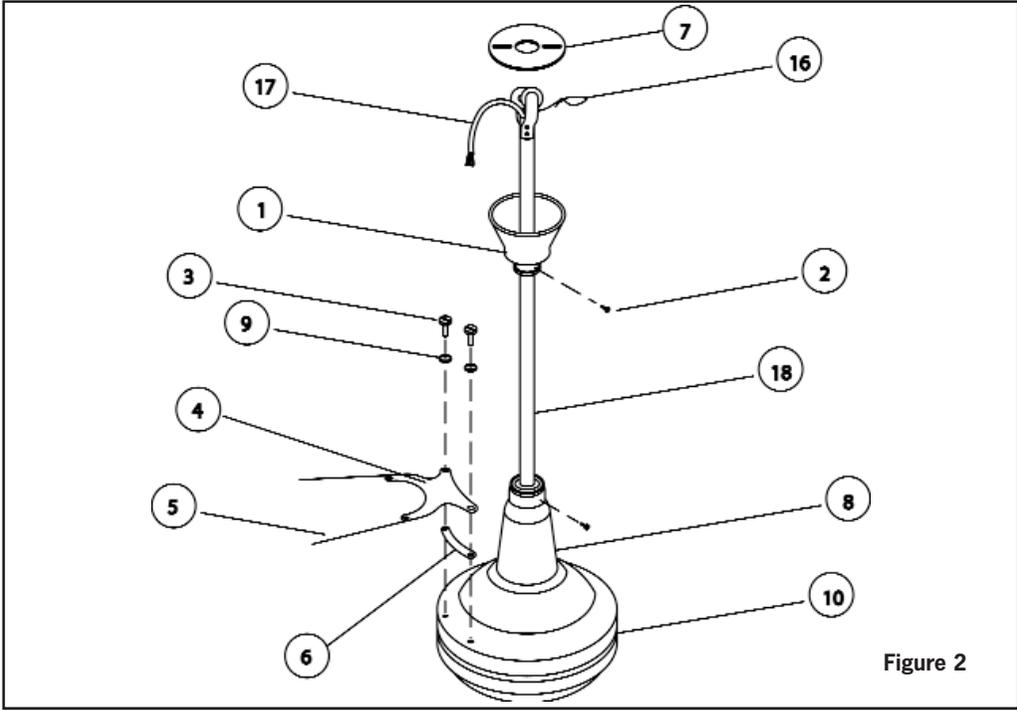

Figure 2
7. Mount the fan blades onto the motor head with screws and spring washers (see Fig. 2 for details).